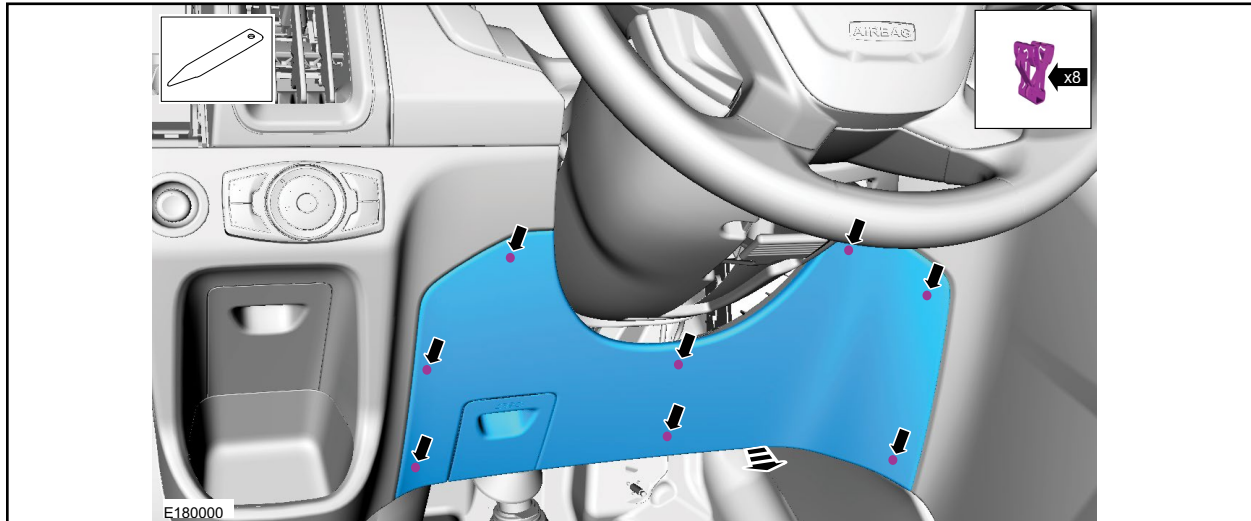

FIGURE 6
1. Release the eight clips and remove the lower steering column opening trim panel. See Figure 6.